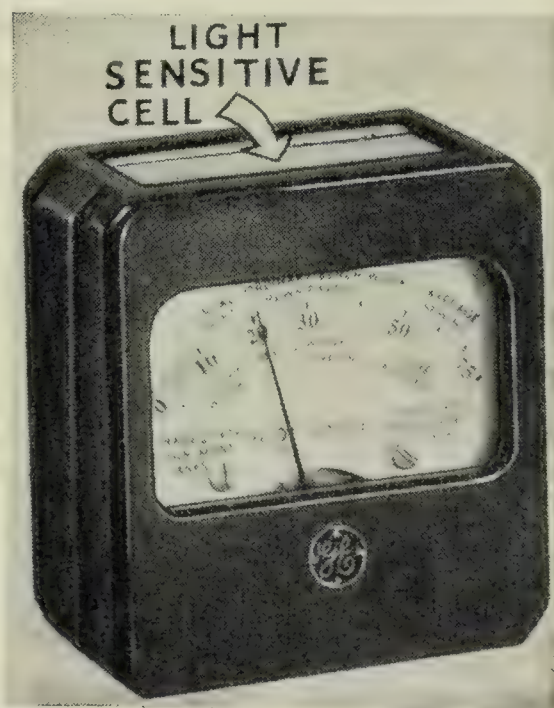

FIG. 465. A light meter (General Electric photo)
With the invention of the *light meter* (Figure 465), lighting has become a science. By this instrument it is possible to tell how much light is needed for different purposes and the kind and number of lamps needed to supply this light. The results of experiments show the following light needs: (1) For use in the dining-room, at a card table, and other eye work not requiring close sight—10 foot-candles or less. (2) For reading good print on